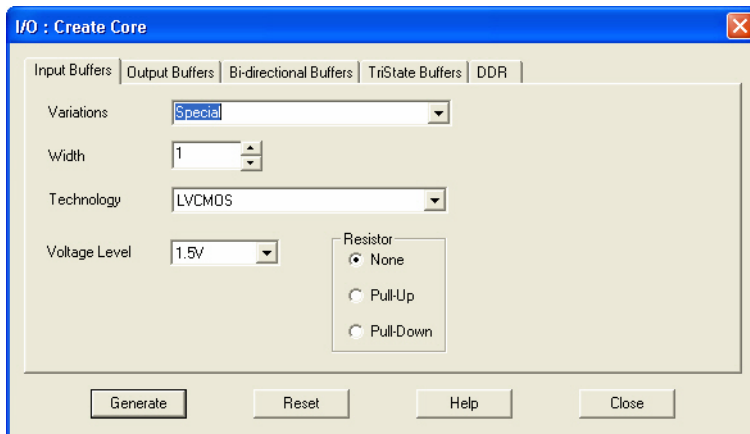

Figure 8-3 • I/O Create Core Window
3. Double-click I/O to open the Create Core window, which is shown in Figure 8-3).
As seen in Figure 8-3, there are five tabs to configure the I/O macro: Input Buffers, Output Buffers, Bidirectional Buffers, Tristate Buffers, and DDR.
The **Special** variation has Width, Technology, Voltage Level, and Resistor Pull-Up/-Down options (see Figure 8-3). All the I/O standards and supply voltages (V_{CC1}) supported for the device family are available for selection.